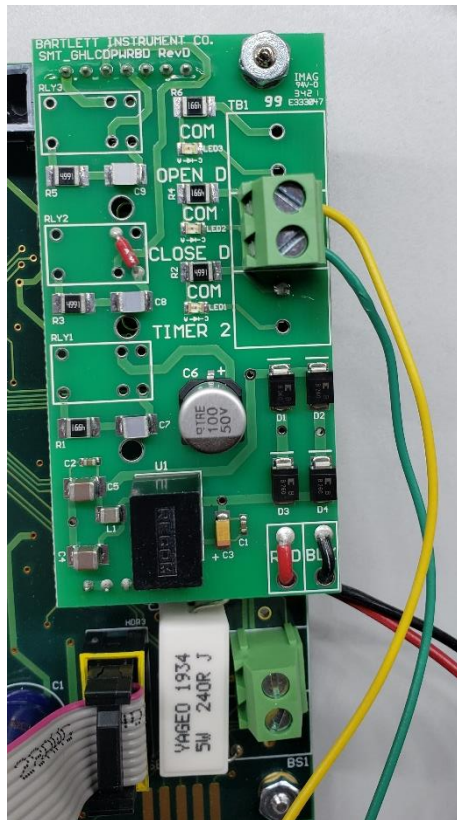

Figure 4: Rain Sensor connections.
Step 8: Connect the rain sensor at COM & Close D on the power supply board as shown in **Figure 4 & 5**.